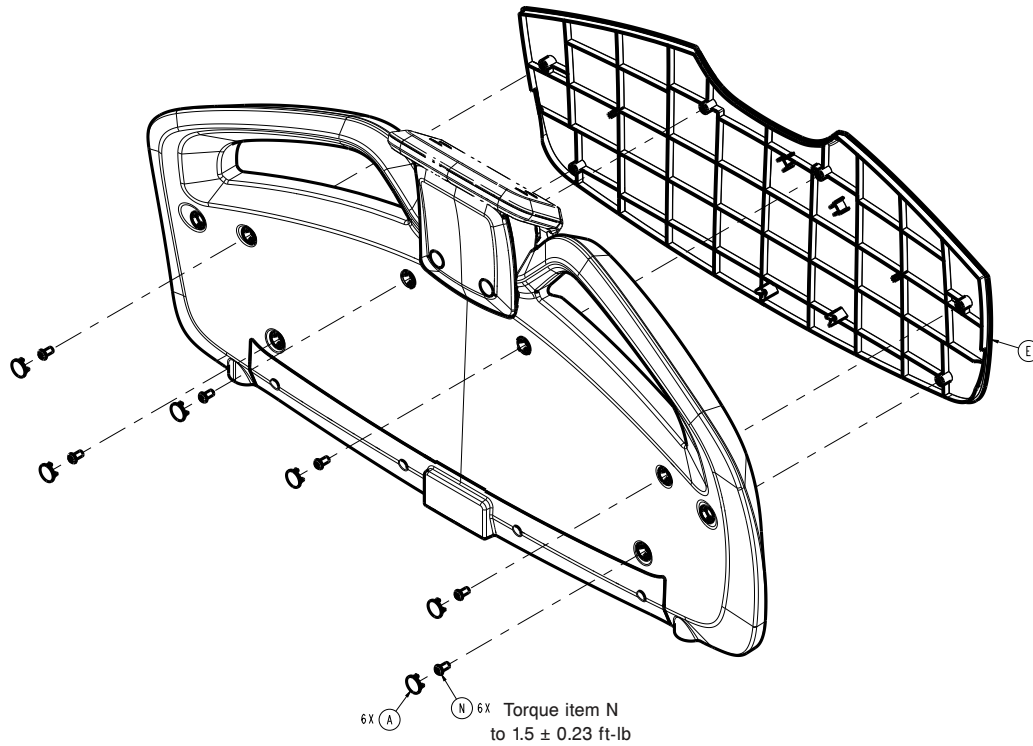

Figure 37 – Footboard housing
5. Using a pick, remove the six screw covers (A) from the back side of the footboard (Figure 37). Discard the screw covers.
6. Using a T27 Torx driver, remove the six screws (N) that secure the front footboard cover (E) to the footboard (Figure 37). Remove the front footboard cover.